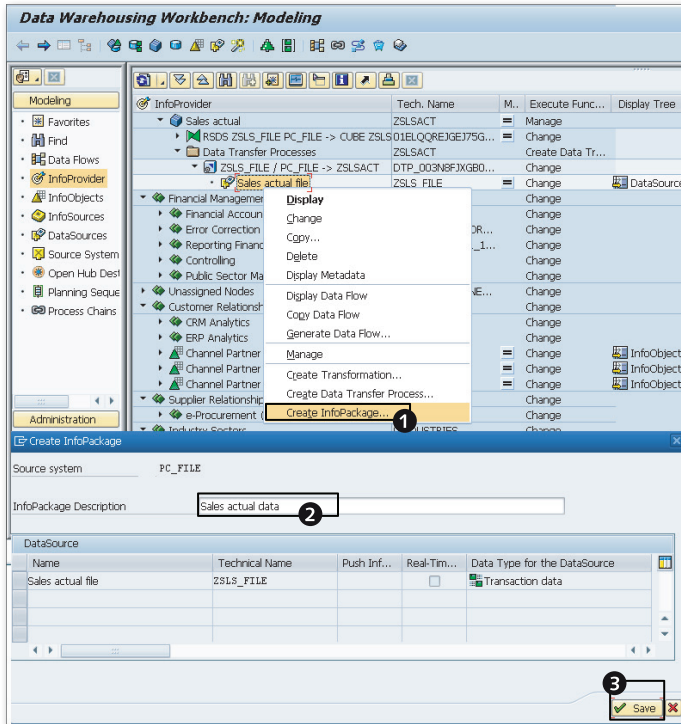
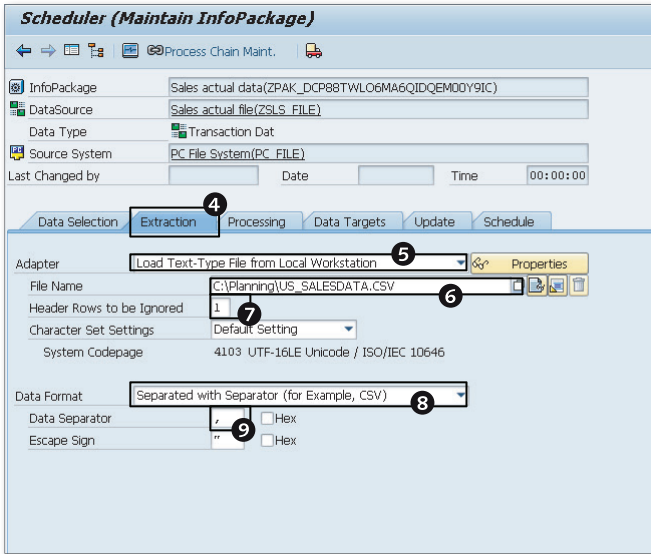
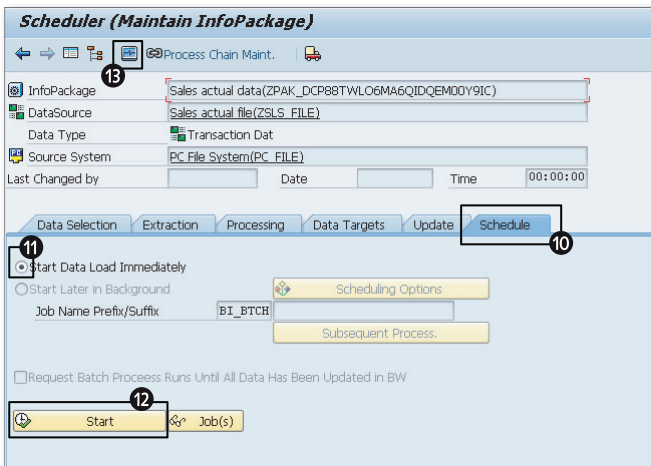

Figure 4.9 Create InfoPackage—Part A
Figure 4.10 Create InfoPackage—Part B
Figure 4.11 Execute the InfoPackage
The InfoPackage is the object that is used to schedule the load of data from a DataSource to a PSA. Create an InfoPackage for loading the sales data using the following steps, as illustrated in Figure 4.9, Figure 4.10, and Figure 4.11:
3. Right-click on the SALES ACTUAL FILE DataSource, and select CREATE INFOPACKAGE from the context menu (Figure 4.9, ❶).
4. In the CREATE INFOPACKAGE window, enter the name of the InfoPackage ("Sales actual data"), and click on ENTER (Figure 4.9, ❷ and ❸).
5. In the SCHEDULER (MAINTAIN INFOPACKAGE) window, select the EXTRACTION tab (Figure 4.10, 4).
6. Choose the ADAPTER, which determines whether the file you want to load exists on a local workstation or an SAP application server. Because this file exists on your PC, select LOAD TEXT-TYPE FILE FROM LOCAL WORKSTATION from the dropdown list (Figure 4.10, 5).
7. Enter the name of the file (C:\PLANNING\US_SALESDATA.CSV) that contains the sales and cost data for 2011 (Figure 4.10, 6).
8. Specify the header rows to be ignored if you want the system to ignore header rows. (Refer to Figure 4.1 for the layout of the file.) Because the first row of data contains the header, enter “1” in the HEADER ROWS TO BE IGNORED field (Figure 4.10, 7).
9. Next to DATA FORMAT (Figure 4.10, 8), select SEPARATED WITH SEPARATOR (FOR EXAMPLE, CSV) from the dropdown list, and, next to DATA SEPARATOR, enter a comma (Figure 4.10, 9).
10. Select the SCHEDULE tab (Figure 4.11, 10). Ensure that START DATA LOAD IMMEDIATELY is selected (Figure 4.11, 11). Click on START (Figure 4.11, 12). The data will now be extracted from the DataSource into the PSA. Click on the MONITOR button to check the status of the extraction process (Figure 4.11, 13).